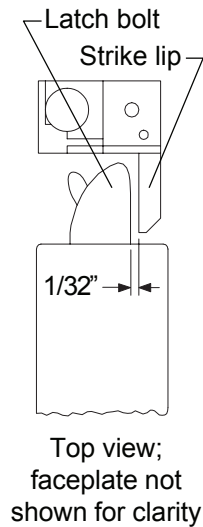

Figure 3
- 6 Install strike with two #12-24 screws. Make sure clearance between latch bolt and strike lip is 1/32" (Figure 3). If not, uninstall strike, adjust (Figure 4), and reinstall.